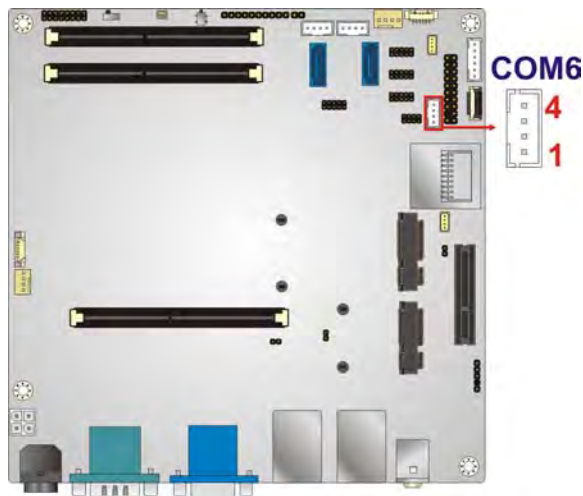

Figure 3-19: RS-422/485 Connector Location
- CN Location: See **Figure 3-19**